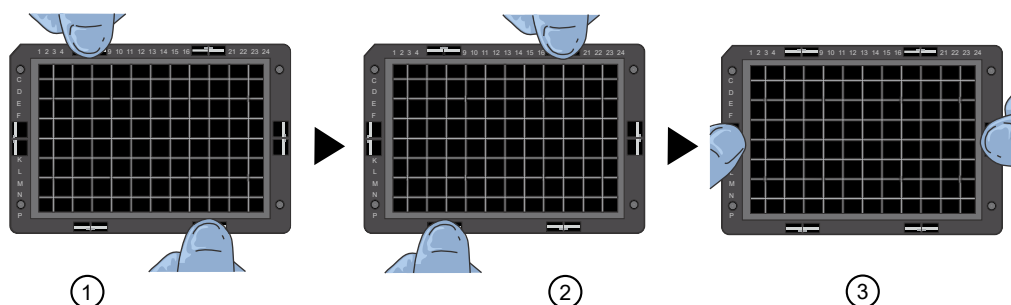

Figure 33 Clamping verification steps.
- ① Chamfer corner.
6. Ensure the clamping of the plate stack to check that the array plate is securely fastened to the hybridization tray. Using your thumbs, press the array plate downward following the positions that are specified in Figure 33. *No clicking sound indicates proper clamping.*